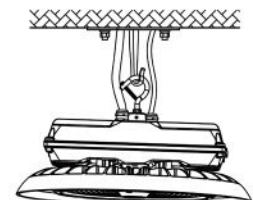

Fig. 2
- Hang the fixture on the ceiling hook or chain. After installation, connect the wire of the fixture to the mains according to the local wiring rules (Fig. 2)